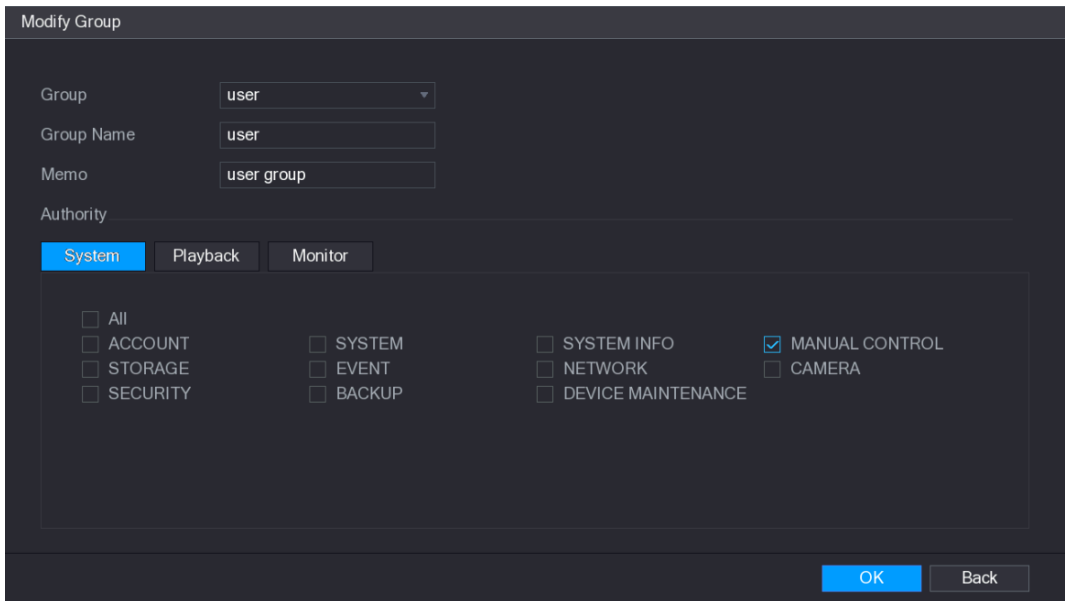

Figure 5-230
Step 3 The **Modify Group** interface is displayed. See Figure 5-230.